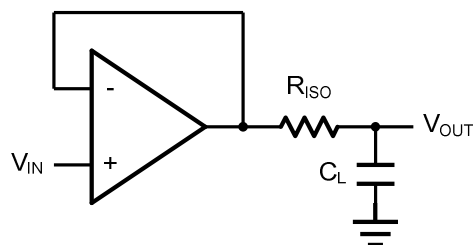
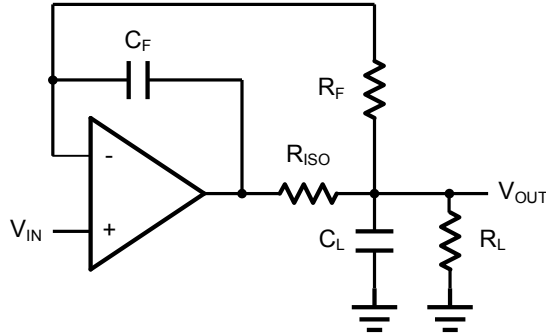

Figure 2. Indirectly Driving a Capacitive Load Using Isolation Resistor
Figure 3. Indirectly Driving a Capacitive Load with DC Accuracy
The OPAx317 family is optimized for bandwidth and speed, not for driving capacitive loads. Output capacitance will create a pole in the amplifier's feedback path, leading to excessive peaking and potential oscillation. If dealing with load capacitance is a requirement of the application, the two strategies to consider are (1) using a small resistor in series with the amplifier's output and the load capacitance and (2) reducing the bandwidth of the amplifier's feedback loop by increasing the overall noise gain. Figure 2. shows a unity gain follower using the series resistor strategy. The resistor isolates the output from the capacitance and, more importantly, creates a zero in the feedback path that compensates for the pole created by the output capacitance.
The circuit in Figure 3 is an improvement to the one in Figure 2. R_F provides the DC accuracy by feed-forward the V_{IN} to R_L . C_F